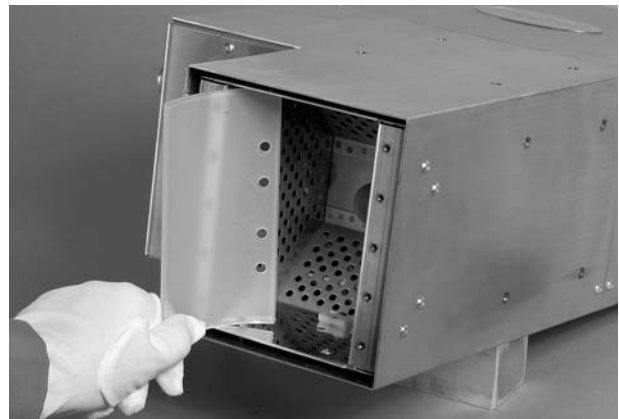

Figure 4-4 Slide the Reflectors from the Lamp head
4. See Figure 4-4. Carefully slide the two reflectors from the lamp head base.